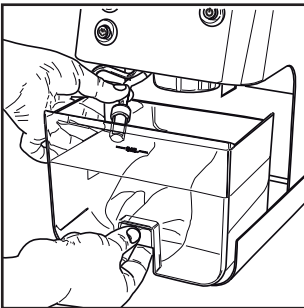
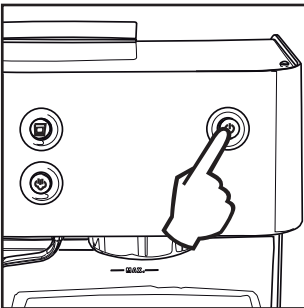
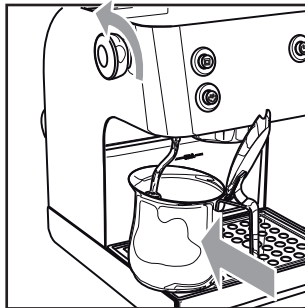

Fig.4
Fig.7
Fig.8
- **(Fig.7)** - Turn on the machine by pressing the ON/OFF button (18).
- **(Fig.8)** - Place a container below the steam spout.
- Open the knob (5) to remove, at intervals and one cup at a time, the whole descaling product. Close the knob (5) to stop the dispensing.
- **(Fig.7)** - During each interval allow the descaling solution to take effect for about 10-15 minutes, disconnecting the ON/OFF button (18). Empty the container.
- **(Fig.4; Fig.8)** - Reinsert the tank in the machine. Open the knob (5) to empty 2/3 of the water. Close the steam knob (5) clockwise to stop dispensing.